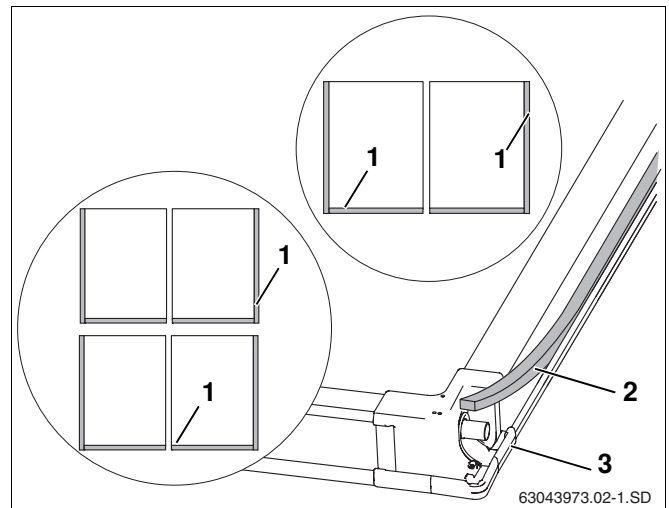

Fig. 21 Back of the collector
The connections between the side and lower facing collectors and the collectors (Fig. 21, **Item 1**) must be sealed with the sealing tape.
- Insert sealing tape (Fig. 21, **Item 2**) adhesive side first into the recessed channel on the outer edges of the outer collectors and at the bottom of every collector (Fig. 21, **Item 1**) incl. the corner connector (Fig. 21, **Item 3**).